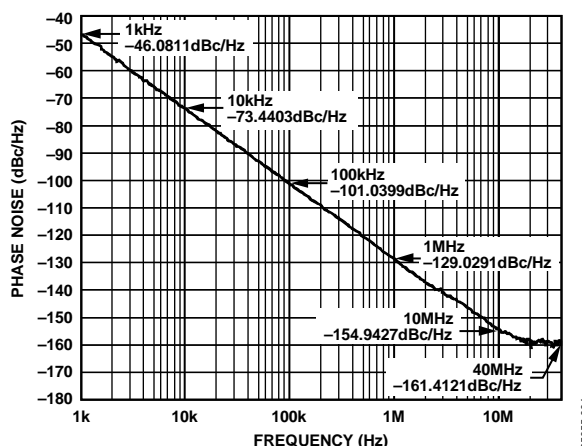

Figure 4. EV-ADF5709 Phase Noise at J2, VCO Band 1,  $V_{TUNE} = 8.45$  V, 13.5 GHz
2. Verify that the phase noise at this output frequency of approximately 13.5 GHz matches the single sideband phase noise specification in the ADF5709 data sheet by using the signal source analyzer to measure the phase noise. Refer to Figure 4.